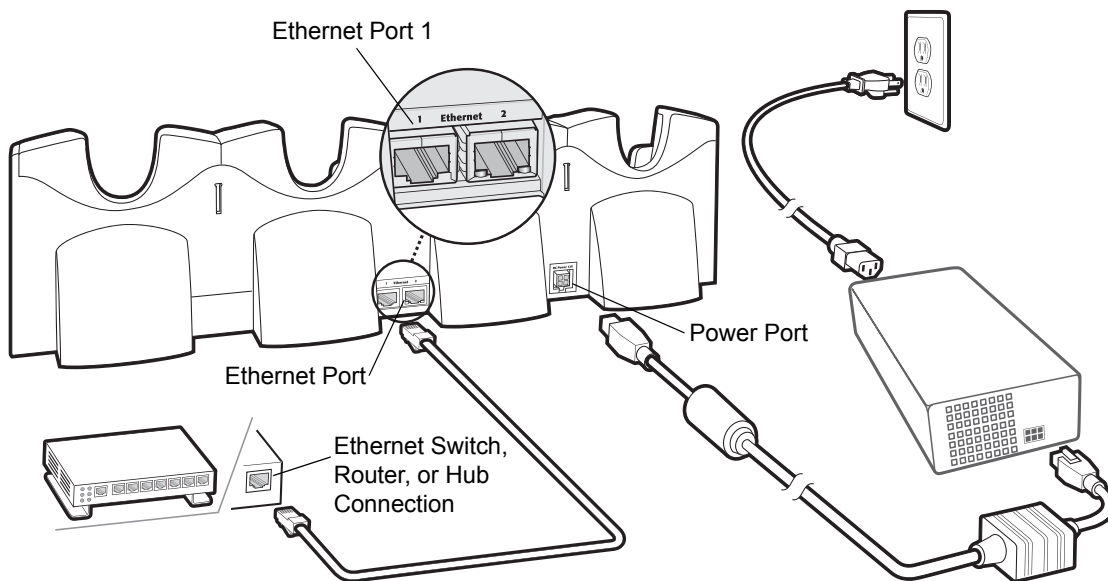

Figure 2-8 Four Slot Ethernet Cradle Connection
2. Connect an Ethernet cable to Port 1 of the first cradle as shown in Figure 2-8.